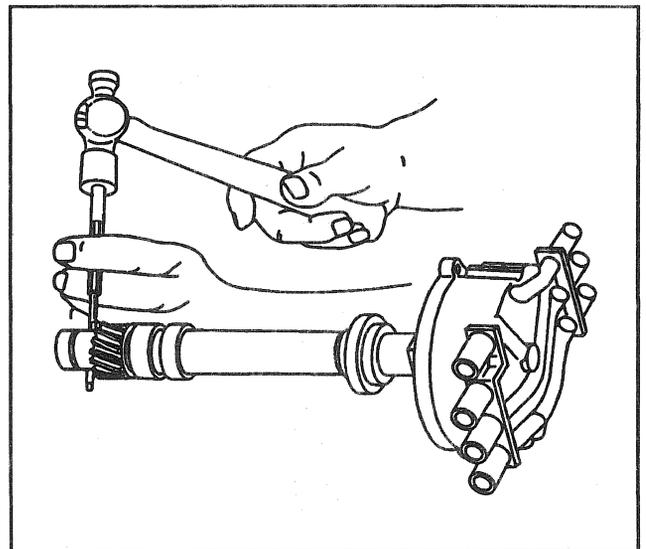

Figure 6—Removing/Installing the Roll Pin (Typical)
7. Roll pin from the shaft (Figure 6).